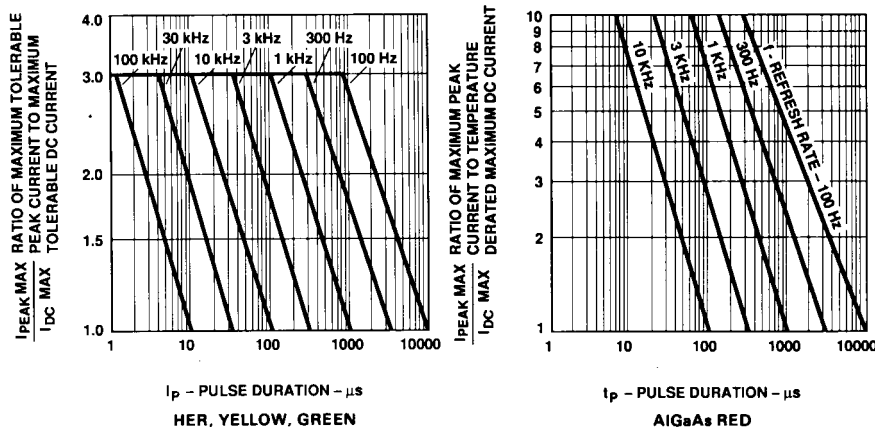

Figure 5. Maximum Tolerable Peak Current vs. Peak Duration ($I_{PEAK MAX}$ Determined from Temperature Derated $I_{DC MAX}$).
1. See Figure 5 to establish pulsed operating conditions.